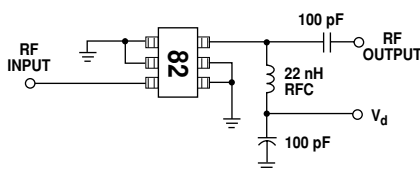
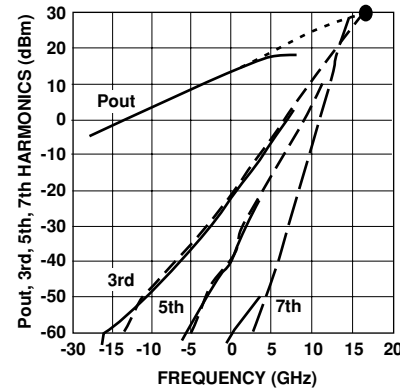
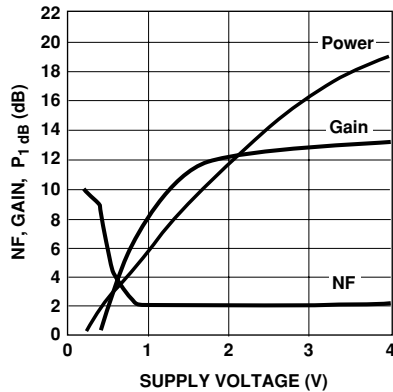

Figure 10. Test Circuit.
Figure 18. Intermodulation Products vs. Input Power. ( $V_d = 3.0$  V)
Figure 19. Gain, Noise Figure, and Output Power vs. Supply Voltage.
1. Guaranteed specifications are 100% tested in the circuit in Figure 10 in the Applications Information section.
The circuit shown in Figure 10 is used for 100% RF testing of Gain and Noise Figure. The test circuit is merely a 50Ω input/output PC board with a RFC at the output to apply DC bias to the device under test. Tests in this circuit are used to guarantee the  $NF_{\text{test}}$  and  $G_{\text{test}}$  parameters shown in the table of Electrical Specifications.
Like other active devices, the intermodulation products of the MGA-82563 increase as the device is driven further into nonlinear operation. The 3rd, 5th, and 7th order intermodulation products of the MGA-82563 are shown in Figure 18 along with the fundamental response. This data was measured in the test circuit in Figure 10.
While the MGA-82563 is designed primarily for use in +3 volt applications, the internal bias regulation circuitry allows it to be operated with power supply voltages from +1.5 to +4 volts. Performance of Gain, Noise Figure, and Output Power over a wide range of bias voltage is shown in Figure 19. (This data was measured in the test circuit in Figure 10.) As can be seen, the gain and NF are fairly flat, but an increase in output power is possible by using higher voltages. The use of +4 volts increases the  $P_{1dB}$  by over 2 dBm.